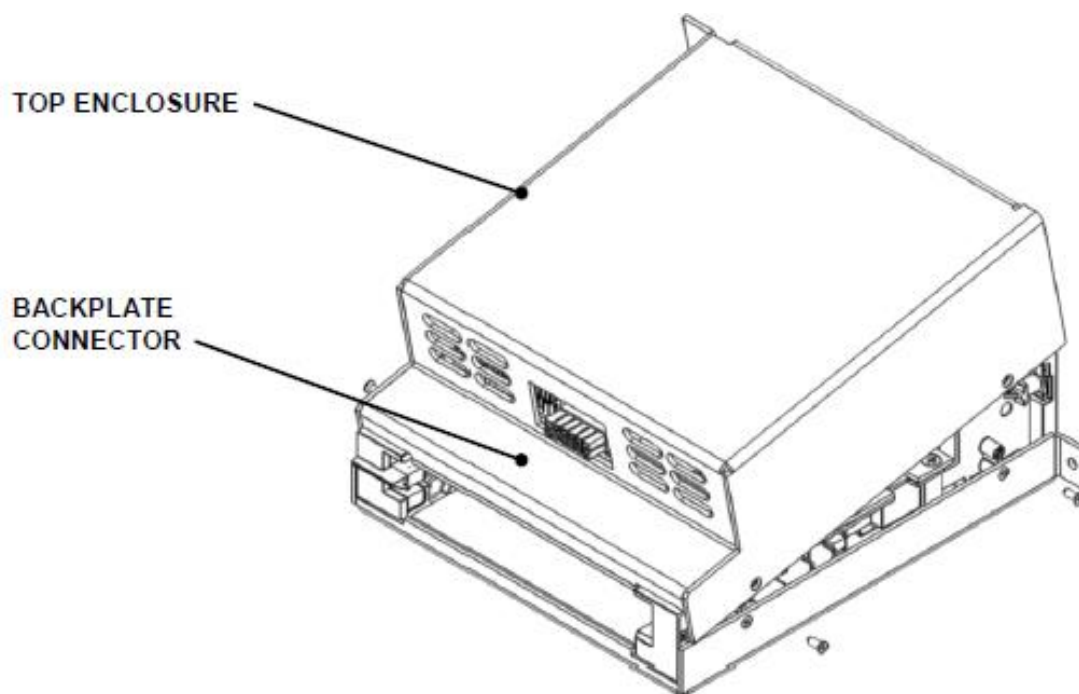

Figure I-3: Replacing the Top Cover.
- **Note:** When replacing the cover, tilt the top enclosure initially as shown in Figure I-3 in order to clear the PCB backplane.